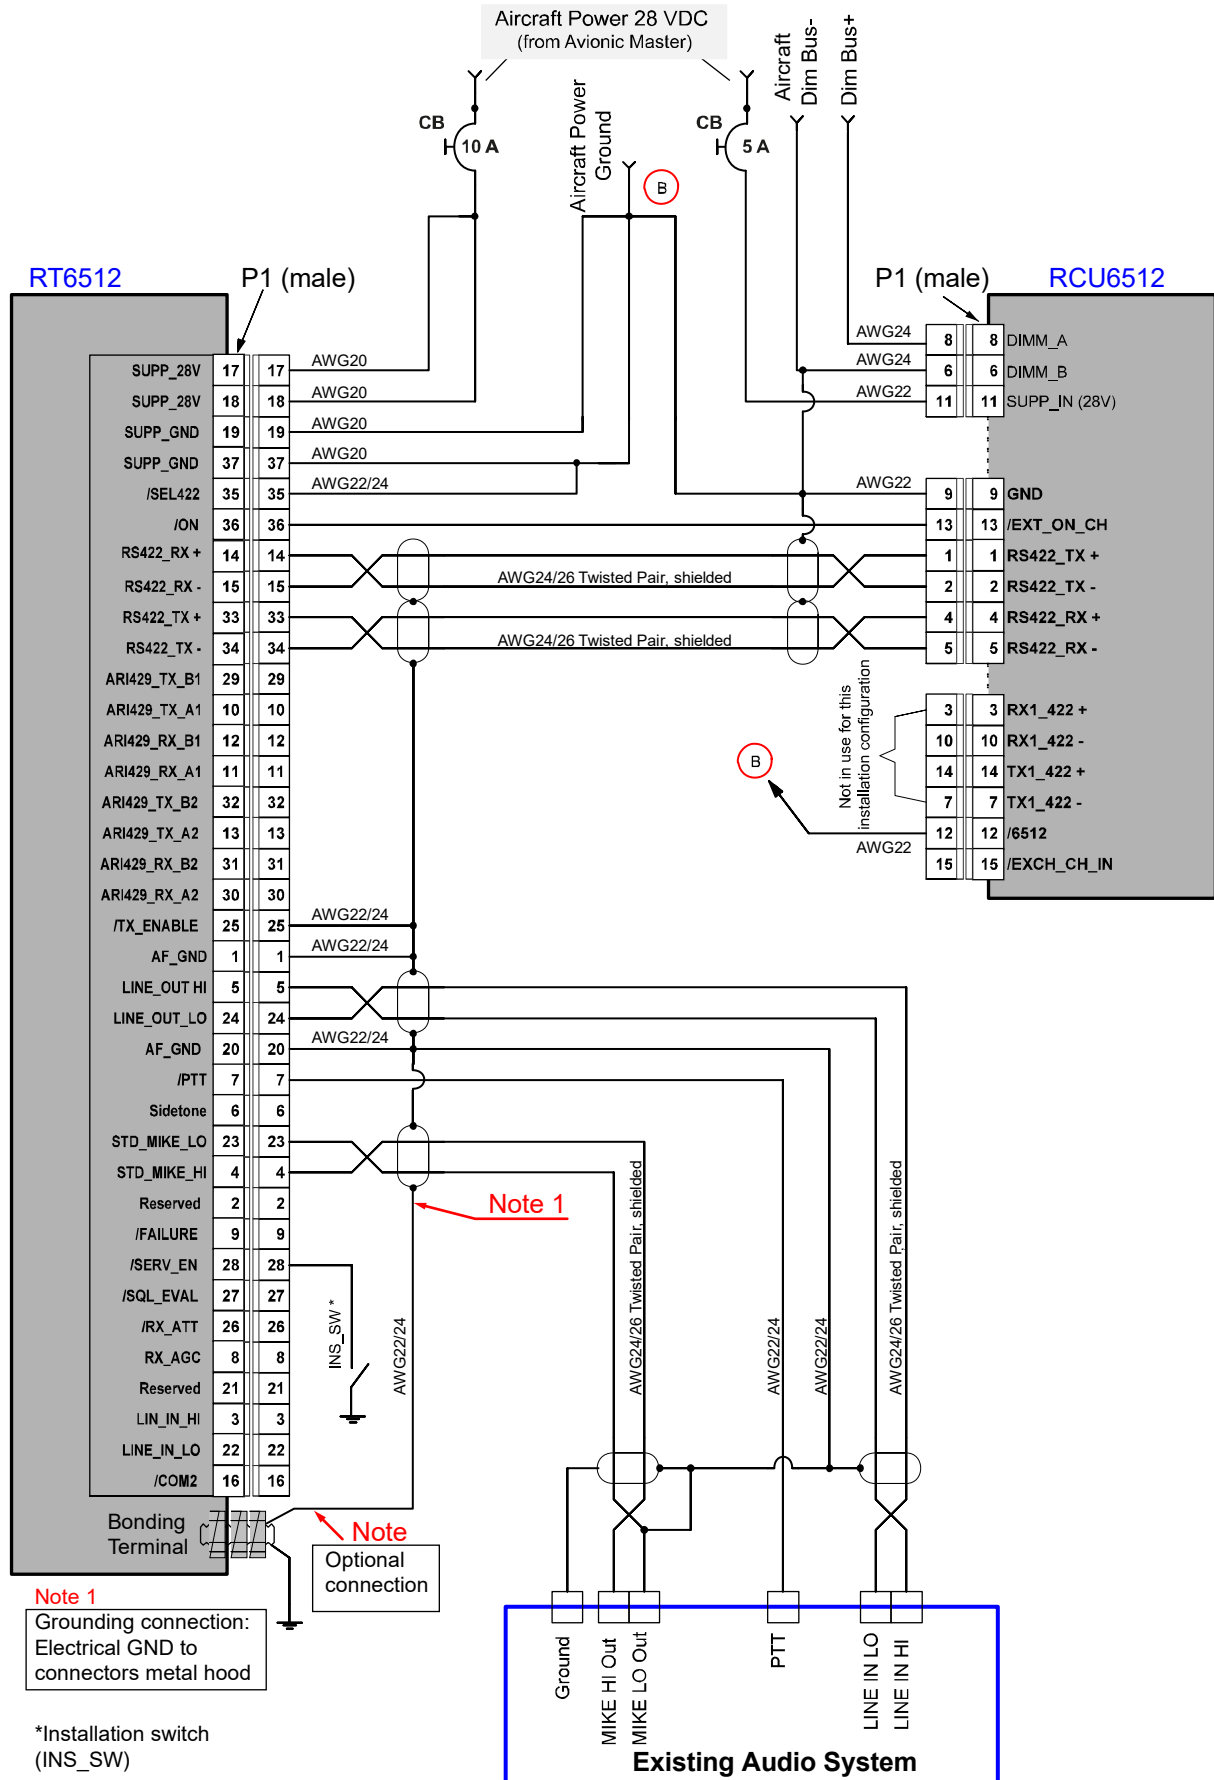

Figure 18: Wiring - RCU6512-(1XX), RCU6512-(2XX) as Primary Controller with RT6512
* For details see "Figure 18: Wiring - RCU6512-(1XX), RCU6512-(2XX) as Primary Controller", page 43).
| | <p>Notice: The change of RT6512 installation parameters is only possible when installation switch* ("INS_SW" to GND) is closed. For details see e.g. wiring "Figure 18: Wiring - RCU6512-(1XX), RCU6512-(2XX) as Primary Controller", page 43 or "Wiring -Two RCU6512-(3XX) for Tandem Operation with RT6512", page 45.</p> |
|  <p>Figure 31: "RT MOD_LIMIT"</p> | <ul style="list-style-type: none"> • Push rotary encoder push button. • The display shows "RT MOD_LIMIT". <p>Notice: "RT MOD_LIMIT" is shown only when installation switch* is closed ("INS_SW" to GND). For details see e.g. wiring "Figure 18: Wiring - RCU6512-(1XX), RCU6512-(2XX) as Primary Controller", page 43 or "Wiring -Two RCU6512-(3XX) for Tandem Operation with RT6512", page 45.</p> <ul style="list-style-type: none"> • The "RT MOD_LIMIT" setting is for audio input sensitivity adjustment. <ul style="list-style-type: none"> ○ Minimum value of 5 dB correspond to minimum sensitivity (approx. 3 V_{RMS} at "MIKE_IN" and 6 V_{RMS} at "LINE_IN" to achieve 70% modulation) ○ Maximum value of 31 dB corresponds to maximum sensitivity (100 mV_{RMS} at "MIKE_IN" and 200 mV_{RMS} at "LINE_IN"). <p>Notice: Pay special attention when setting the input sensitivity.</p> <ul style="list-style-type: none"> • Start adjustment from the minimum. • Speak into the microphone as loudly as you would normally talk (do not shout). Maintain a constant voice level to record the modulation depth measurement. • Obey (measure) the modulation coefficient of the transmitted signal and increase the setting until the modulation depth is approximately 80...85%. • If the recipient of the transmitted message notices a "metallic" sound, the input limit is possibly exceeded. In this case the value of RT MOD_LIMIT must be decreased. |